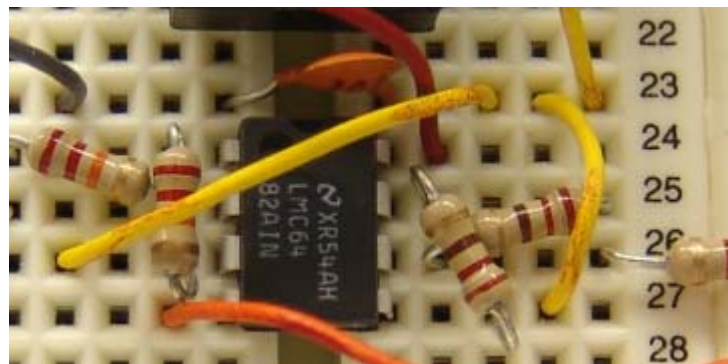

Figure 21. Connecting the Chua diode.
17. The most important connection is to hook up the Chua diode to the rest of the circuit. The connections for doing so are shown in figure 21. I have zoomed in to avoid confusion. The connection is shown by the two yellow wires from 23 to 26 and 27.